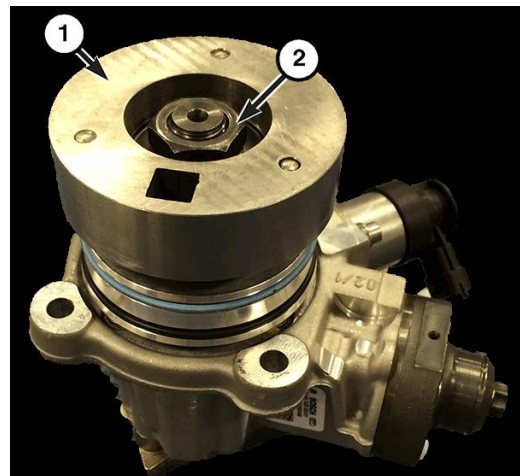

Figure 14 – Fuel Pump Gear Holder
36. Using the Holder, Fuel Pump Gear 2065500140 (1), to hold fuel pump gear in place while removing the fuel pump gear mounting nut (2) and washer (Figure 14).